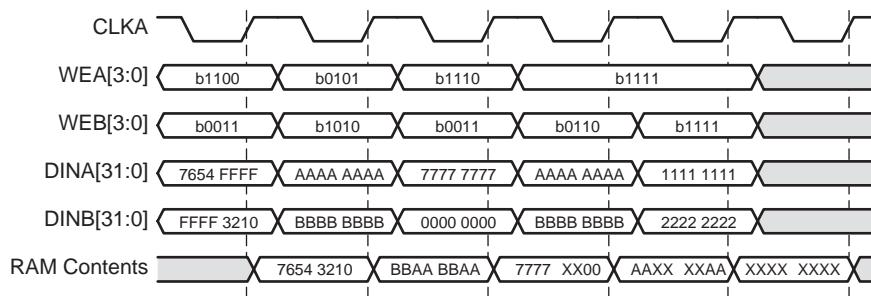

Figure 3-15: Write-Write Collision Example
- **Using Byte-Writes:** When using byte-writes, memory contents are not corrupted when separate bytes are written in the same data word. RAM contents are corrupted only when both ports attempt to Write the same byte. Figure 3-15 illustrates this case. Assume ADDRA = ADDRB = 0.